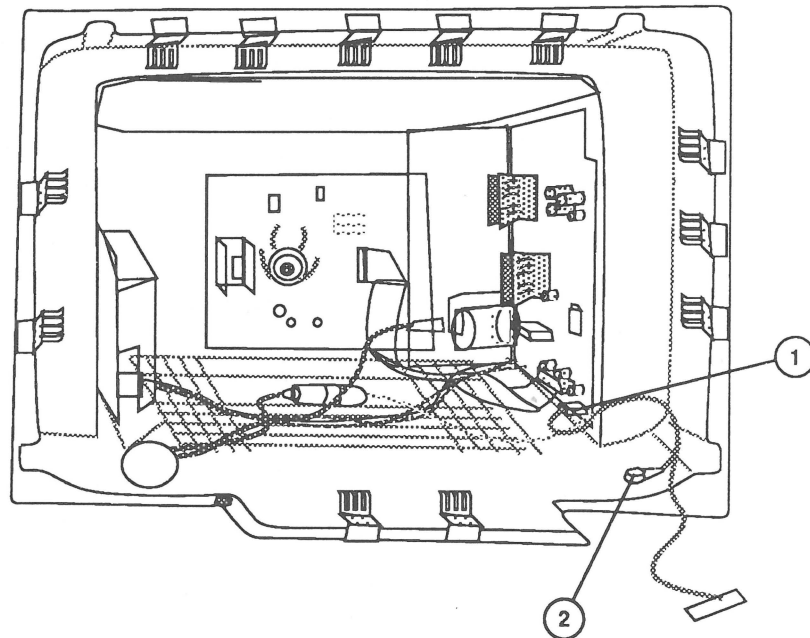

FIGURE 43
8. Disconnect the LED cable (Figure 43, #1) from the main board.
9. Remove the hex nut that secures the green grounding wire (Figure 43, #2) to the inside of the chassis frame. Lift out the LED board and cable assembly.
1. Reconnect the LED cable (Figure 43, #1) to the main board.
2. Replace the hex nut that secures the green grounding wire (Figure 43, #2) to the chassis frame.